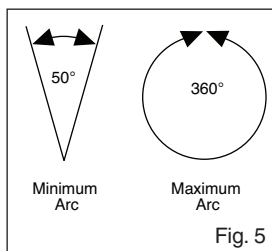

Fig. 5
- Adjust to any arc between 50° and 360° (Fig. 5).